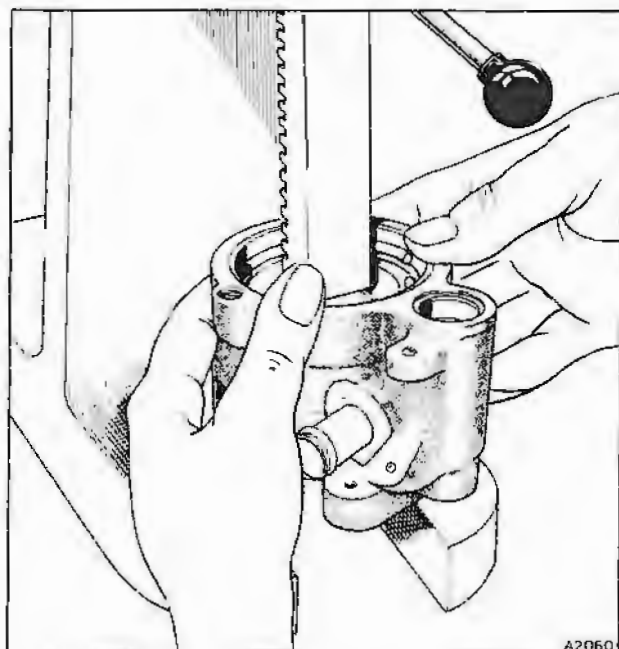

Fig. N3-9 Method of replacing end plate
13. Lubricate the outer diameter of the end plate. Position the pump under a suitable press (see fig. N3-9), and press down the end plate sufficiently to allow the retaining ring to be fitted.